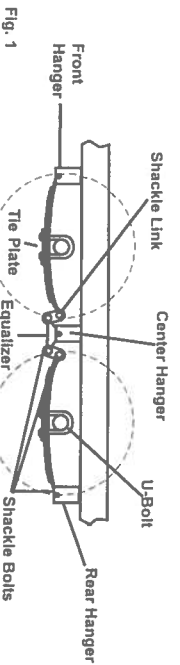

Fig. 1
- For Leaf Spring axles, use all AP Kits provided with axle to install as shown in Fig. 1 below and torque fasteners as specified in the chart below.